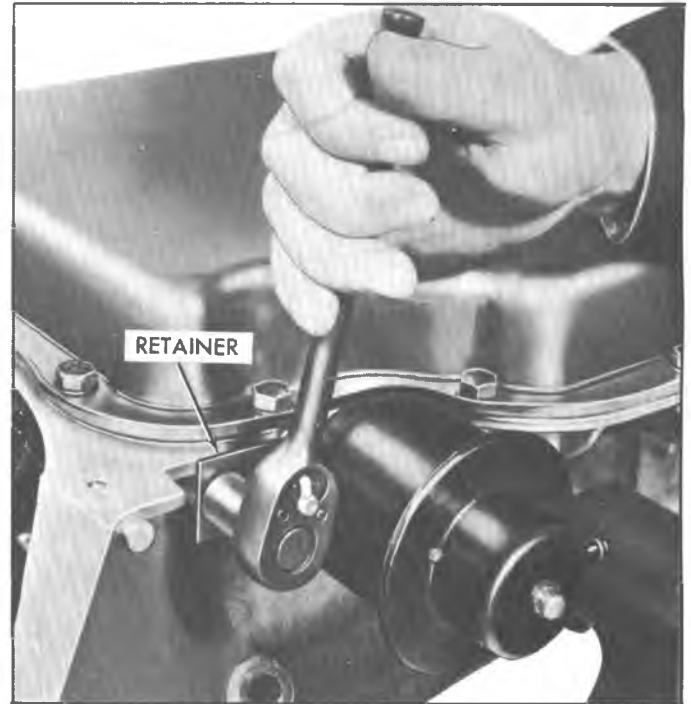

Fig. 3T--Removing Modulator Retainer
4. Remove modulator assembly attaching screw and retainer (fig. 3T).